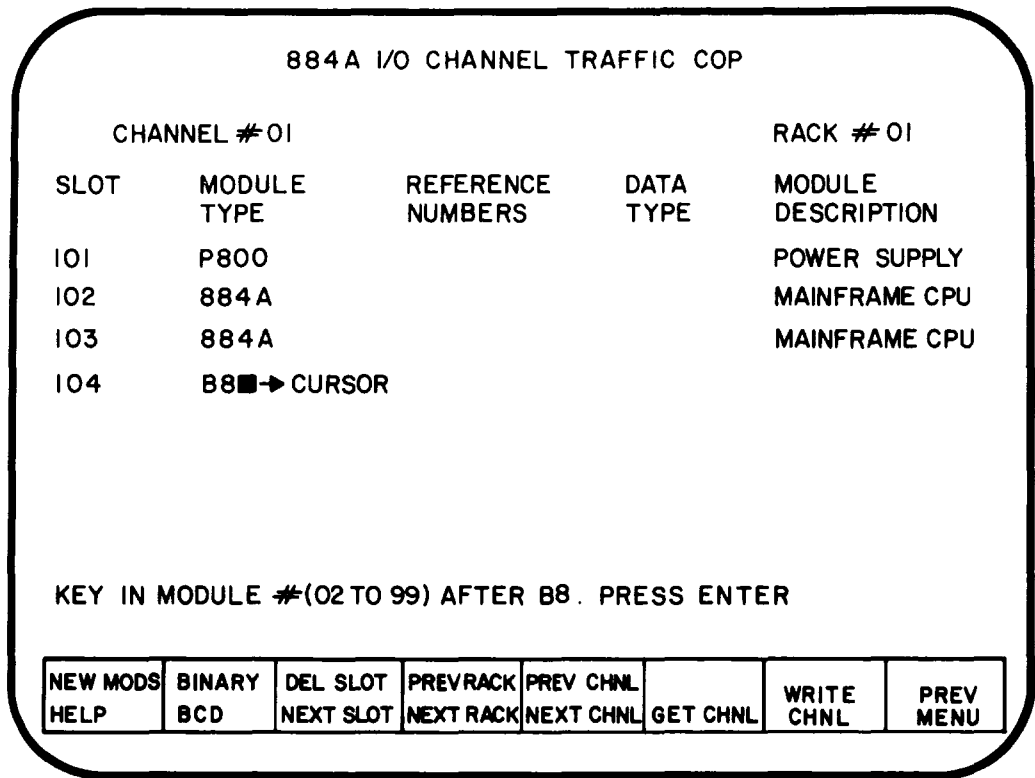

Figure 3-6 884A I/O CHANNEL TRAFFIC COP screen.
1. Figure 3-6 shows the 884A I/O CHANNEL TRAFFIC COP screen. The 884A I/O CHANNEL TRAFFIC COP screen contains the following fields.